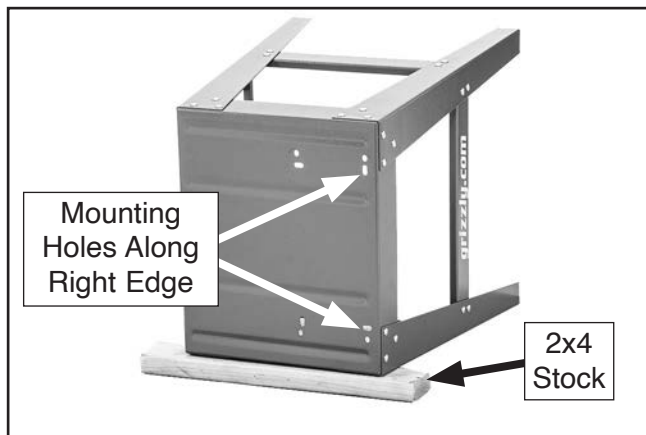

Figure 11. Stand on floor.
5. Lay stand on side with base plate propped up on 2x4 stock on top of cardboard or blanket (see **Figure 11**).